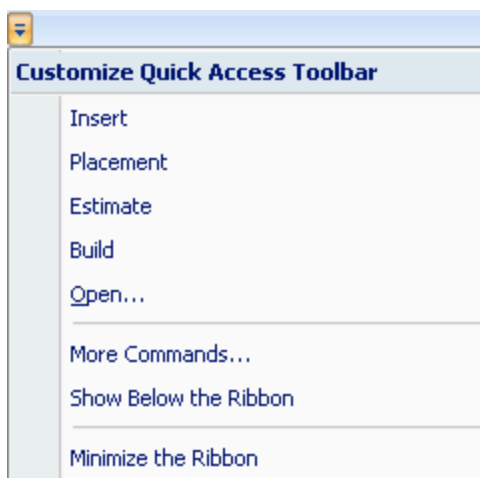

Figure 5-63 *Customize Quick Access Toolbar* menu
- ☐ From the *Customize Quick Access Toolbar* menu (see Figure 5-63 on the previous page), select *More Commands*.